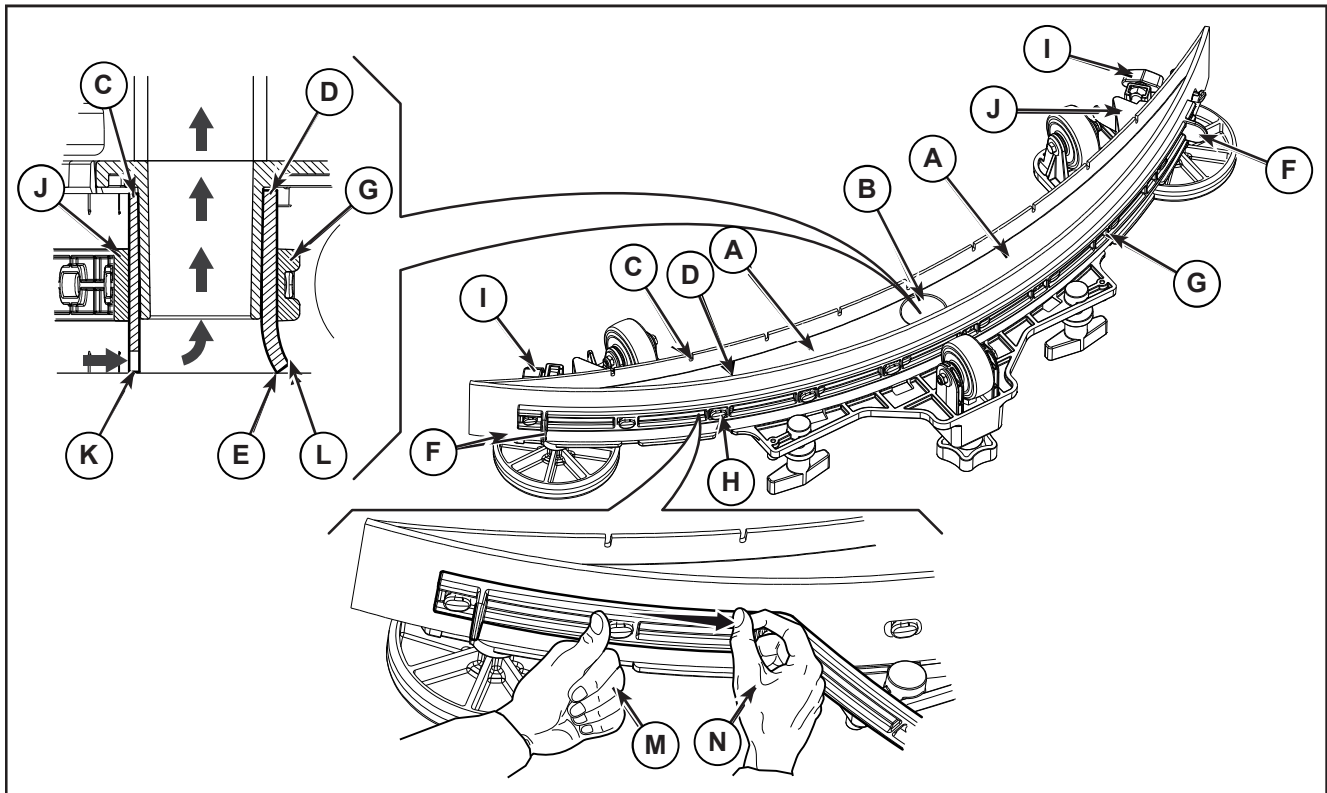

Figure 4:
3. Unscrew the nut (A) (Figure 4), retaining the bushings, washers and spacers (B).
4. Unscrew the screw (C), retaining the nut, washers and spacers (D).
5. Unscrew the screw (E), retaining the nut and washers.
6. Remove and replace the gas spring (F).